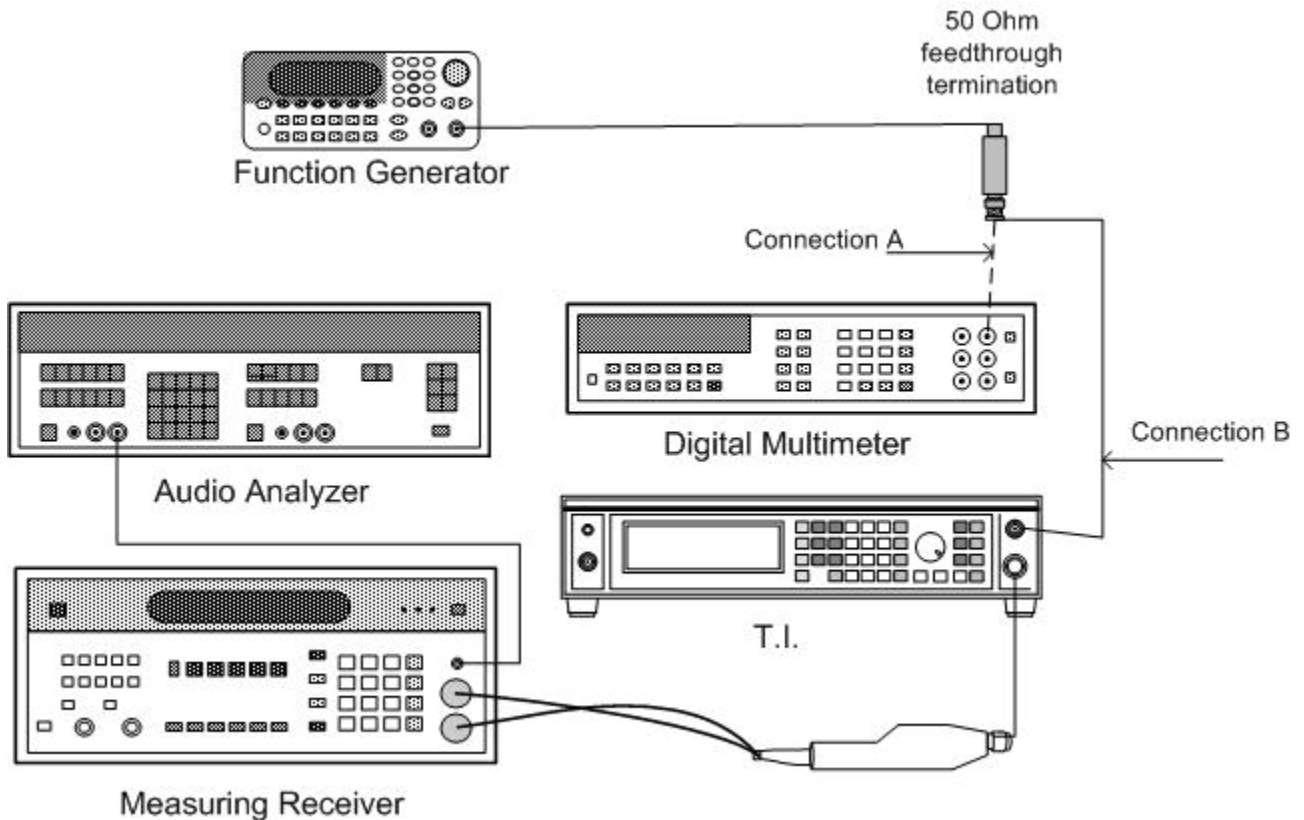

Figure 1. Modulation accuracy hookup.
(1) Connect test equipment as shown in figure 1, Connection A.
- (2) Use multimeter to set the function generator for 1.00 V RMS, 1 kHz sine wave output.
- (3) Connect test equipment as shown in figure 1, Connection B.
- (4) Press TI keys as listed in (a) through (j) below:
(7) Connect test equipment as shown in figure 1, Connection A.
(8) Use multimeter to set the function generator for 0.75 V RMS, 1 kHz sine wave output.
(9) Connect test equipment as shown in figure 1 ,Connection B.
(10) Press the TI keys as listed in (a) through (j) below:
(11) Measure FM deviation using measuring receiver. Measuring receiver will indicate between 9.5 kHz and 10.5 kHz FM deviation (de-select relative mode from previous measurement if necessary). Set a 0.00 dB reference on measuring receiver by pressing **RATIO**. Use **LOG/LIN** as necessary to select dB.
(12) Set function generator to remaining frequencies listed in table 7. Measuring receiver will indicate within limits specified in table 7. If indications are not within limits specified in table 7, perform **b** below.
(13) Connect test equipment as shown in Figure 1 Connection A.
(14) Use multimeter to set the function generator for 1.25 V RMS, 1 kHz sine wave output and repeat (9), (11) and (12) above using table 8.